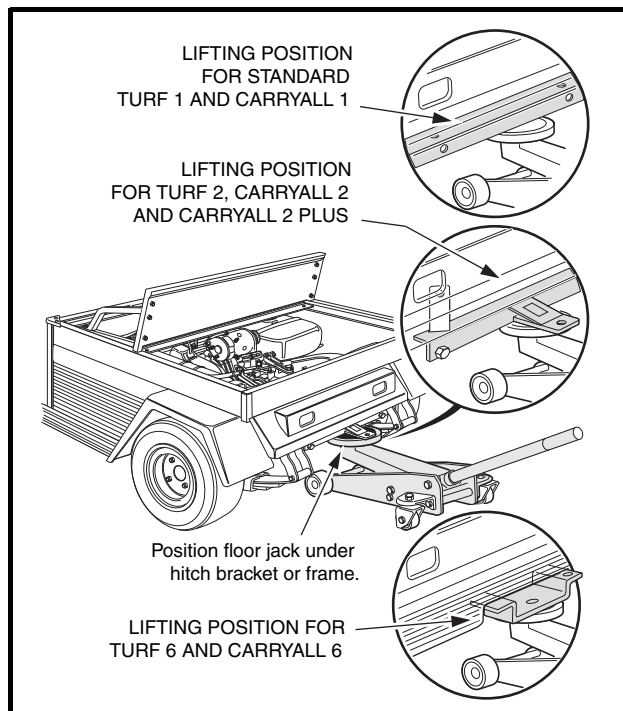

Figure 9-2 Lift Vehicle
2. Place chocks at the front wheels and lift rear of vehicle with a chain hoist or floor jack (**Figure 9-2, Page 9-2**). Position jack stands under the frame crossmember between the rear leaf spring front frame mount and the side stringer, just forward of each rear wheel. Lower the vehicle to let the jack stands support the vehicle. See **WARNING "Lift only one end of the vehicle..." in General Warning, Section 1, Page 1-1**.